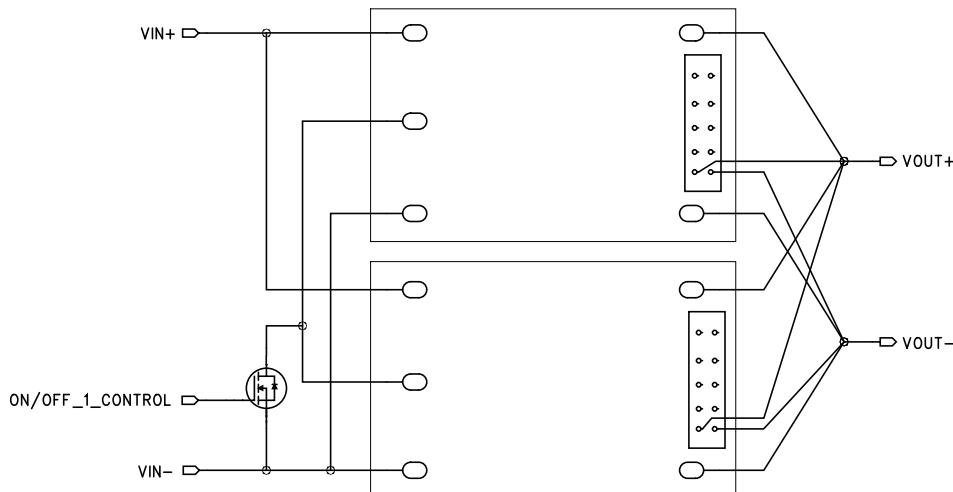

Figure 3. Load Sharing Block Diagram
Two or more converters may be connected in parallel at both the input and output terminals to support higher output current (total power, see figure 3) or to improve reliability due to the reduced stress that results when the modules are operating below their rated limits. For applications requiring current share, followed the guidelines below. The products have a pre-configured voltage. The stated output voltage set point is at no load. The output voltage will decrease when the load current is increased. The voltage will drop 0.35V while load reaches max load. Our goal is to have each converter contribute nearly identical current into the output load under all input, environmental and load conditions.
- +Vout and -Vout of all parallel units should be connected with a balance output impedance; +Sense and -Sense should be connected together with PMBus option (see figure 3).